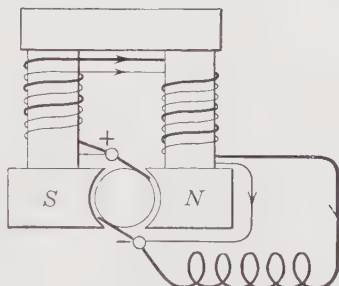

FIG. 8.
3. Compound wound generators in which there are two windings on the field coils as shown in Fig. 8. One is a shunt winding